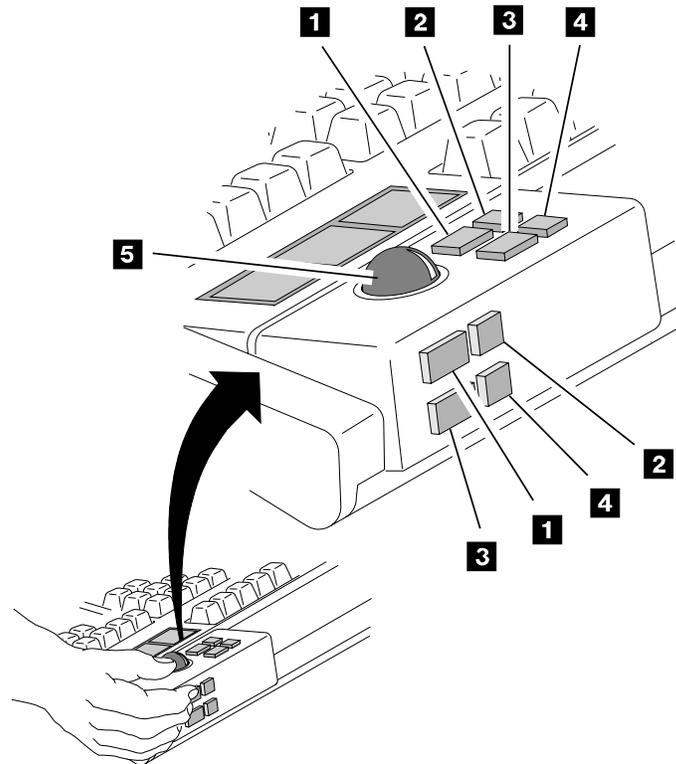
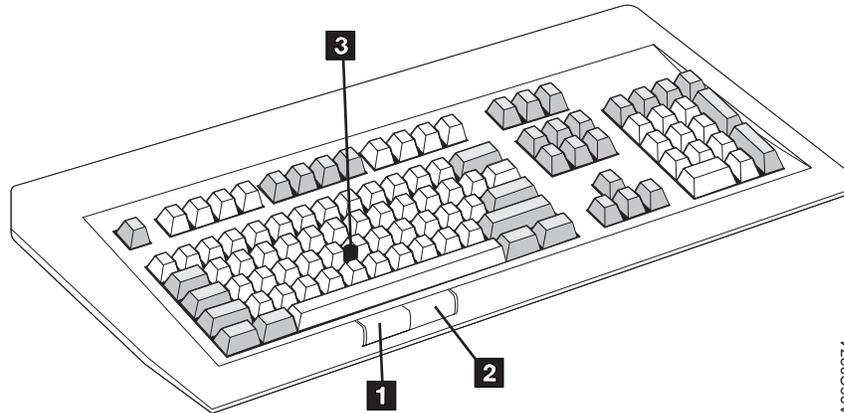

Figure 38. Trackball Pointing Device
Figure 39. Track Pointer Keyboard
Figure 38 on page 93 shows the commonly-used keys.
Two types of pointing devices are available. Figure 38 on page 93 shows the trackball pointing device. The trackpoint pointing device is a red button in the middle of the keyboard as shown in Figure 39 on page 94. You can use the pointing devices to select items on the display. You can take actions by using the accompanying buttons.
1. Gently press the track point (**3** in Figure 39) in the direction you desire the pointer to move and position the pointer on the object.
2. Press and quickly release button **1** in Figure 39. This action selects an object and is referred to as “clicking on an object”.
3. Press and quickly release button **1** in Figure 39 twice to initiate the selected item. This action is referred to as “double-clicking on an object”.
1. Gently press the trackpoint (**3** in Figure 39) to position the pointer on the object.
2. Press and hold down button **1** in Figure 39.
3. Gently press the trackpoint (**3** in Figure 39) to move the object. This action is referred to as “dragging an object”.
Note: Button **2** in Figure 39 is not used.